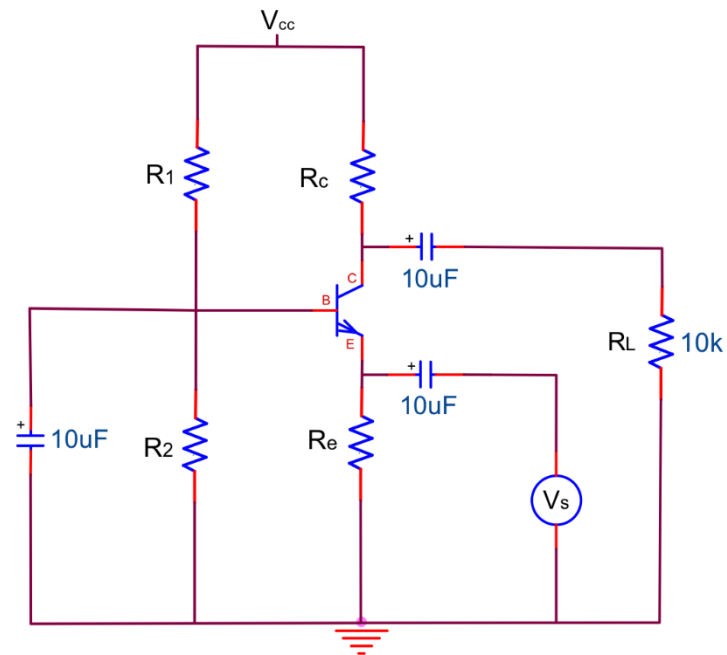

Figure 7.3
5. Construct the circuit in Figure 7.3.